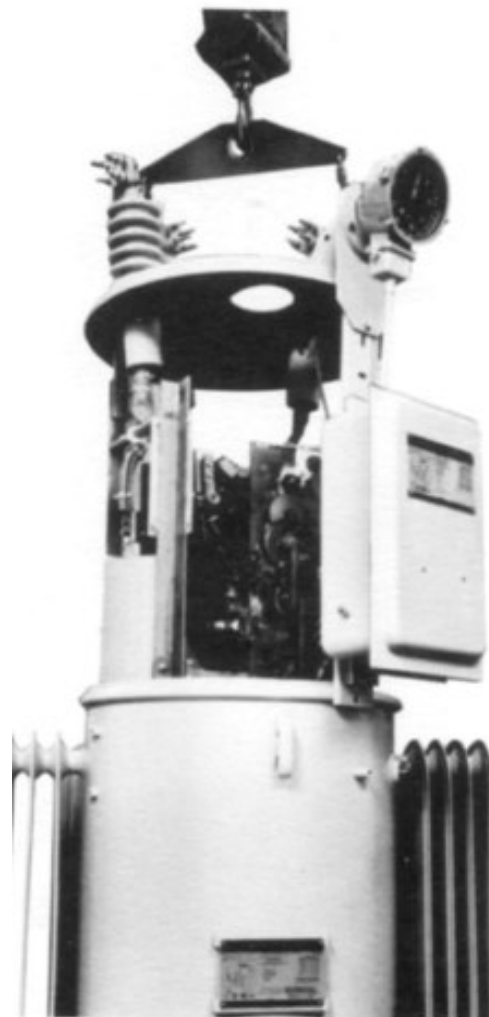

Fig. 11. Untanking Type VR-1 step voltage regulator, showing use of tank spreader bar when lifting regulator from tank.
3. Lift the cover-suspended regulator from tank, using the lifting eyes on the top of the cover. The use of a spreader bar is recommended. (See Fig. 11)